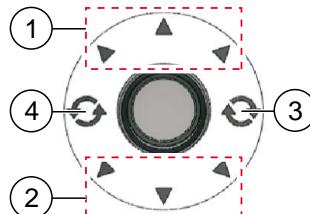

Fig. 3: Joystick functions
- Forwards / Reverse Fig. 3 (1,2)
- Rotation Fig. 3 (3,4)
- In the areas for forwards (1) or reverse motion (2), the caravan can be moved with stepless control in the selected direction.